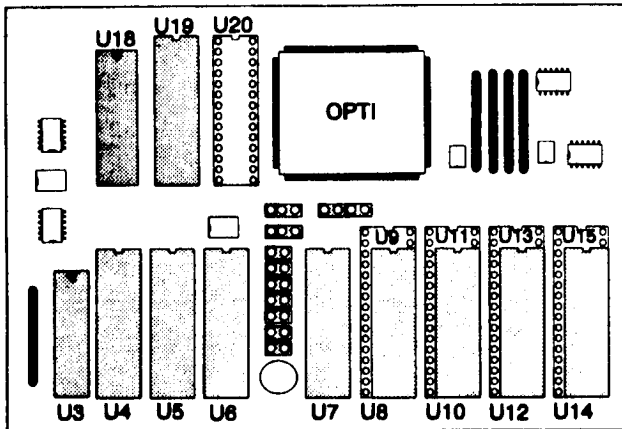

Figure 2-1: MDE486 Cache
Cache bank 0 supports two size SRAM chips - 28 and 32 pins. The smaller sub-set sockets are used for 8K x 8 and 32K x 8 chips and are labeled U9, U11, U13 and U15. The larger set of sockets are used only for 128K x 8 SRAMs and are labeled U8, U10, U12 and U14. See Figure 2-1.
2. Using figure 2-1, locate which chips need to be removed and installed.